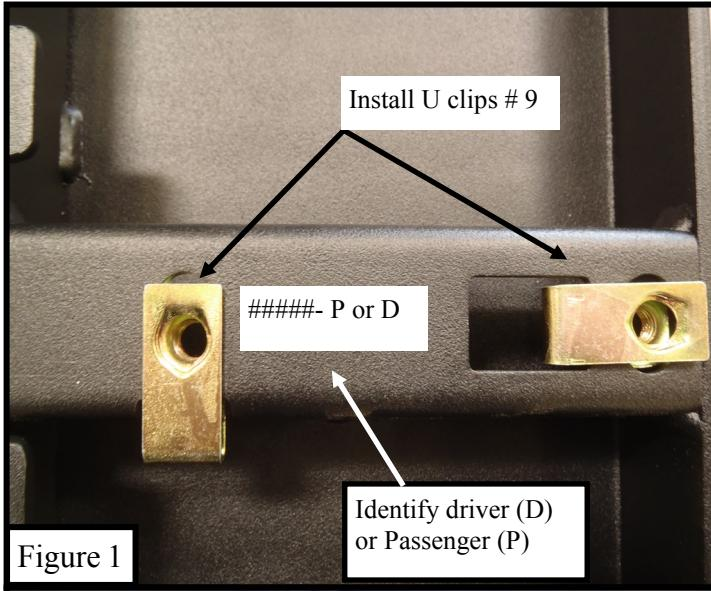

Figure 1
2. Identify driver and passenger side running boards (Figure 1) and install M8 u-nut clips (Item 9) to the underside of the boards. (Figure 1)